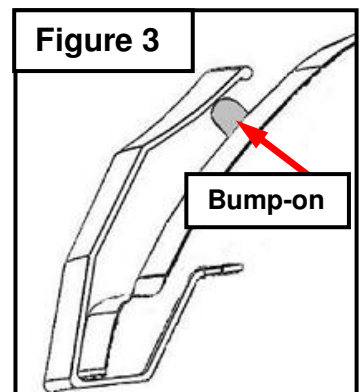

Figure 3
6. Attach rubber bump-on to the factory hood where the corners of the Hood Shield are closest to the hood. **(Figure 3)** **Clean area first with isopropyl alcohol and remove adhesive backing from bump-on and apply to hood.**